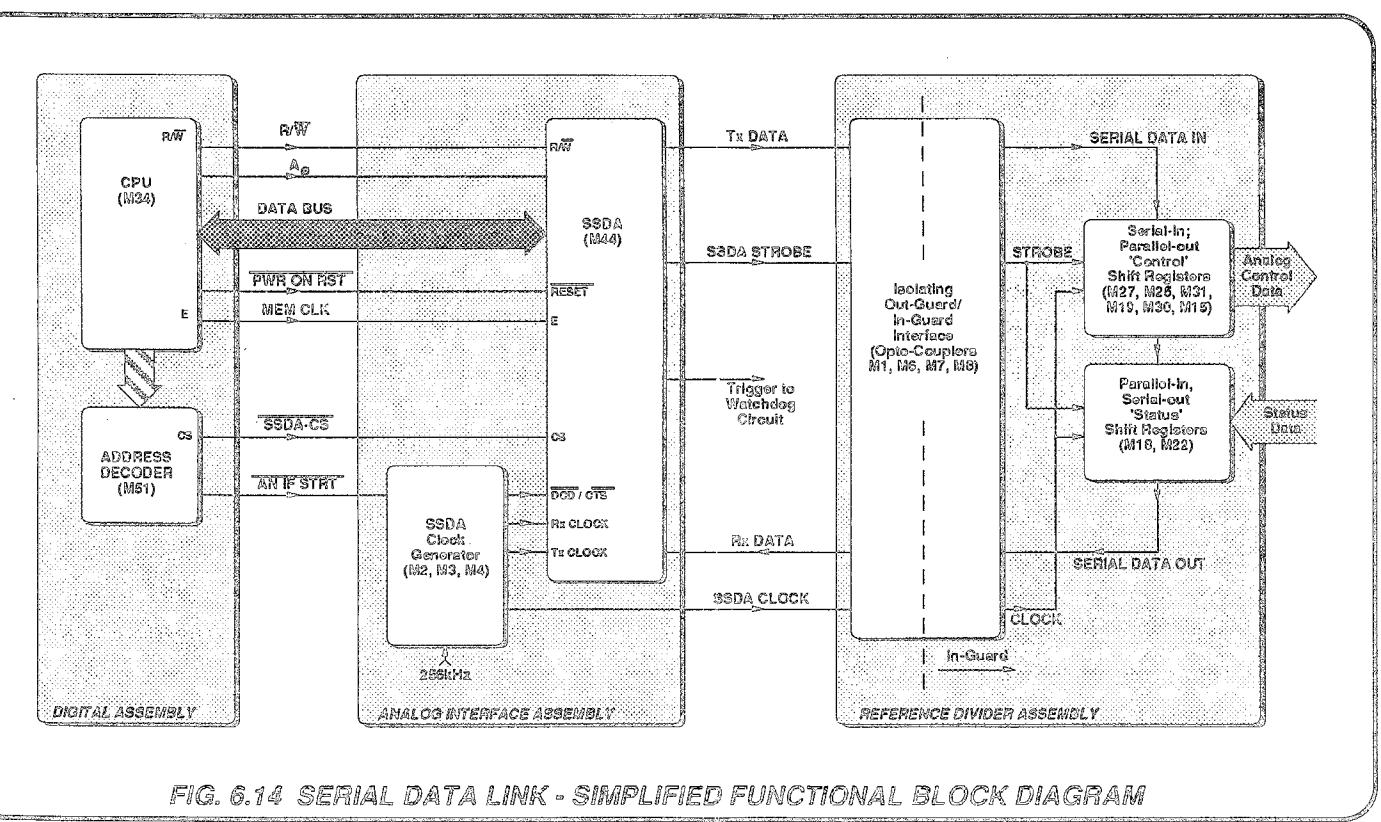

FIG. 6.14 SERIAL DATA LINK - SIMPLIFIED FUNCTIONAL BLOCK DIAGRAM
- Provides a two-way interface via a serial data link between out-guard digital processing and in-guard analog control circuitry on the reference divider assembly (see Fig. 6.14).
Certain selected 'Status' signals, originating in the analog assemblies, are returned to the CPU during the data transfer. Thus, the data link forms a continuous loop, as shown in Fig. 6.14.
(*Circuit Diagrams: 480796 Page 11.2-2, 430648 Page 11.3-3, 480652 Pages 11.4-4 and 11.4-5 and Fig. 6.14*)
6.4.2.1 The Transfer Cycle (Fig. 6.14)